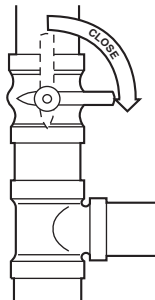

Fig. 8 - Close Valve
2. Close the external manual gas valve. See Fig. 8.